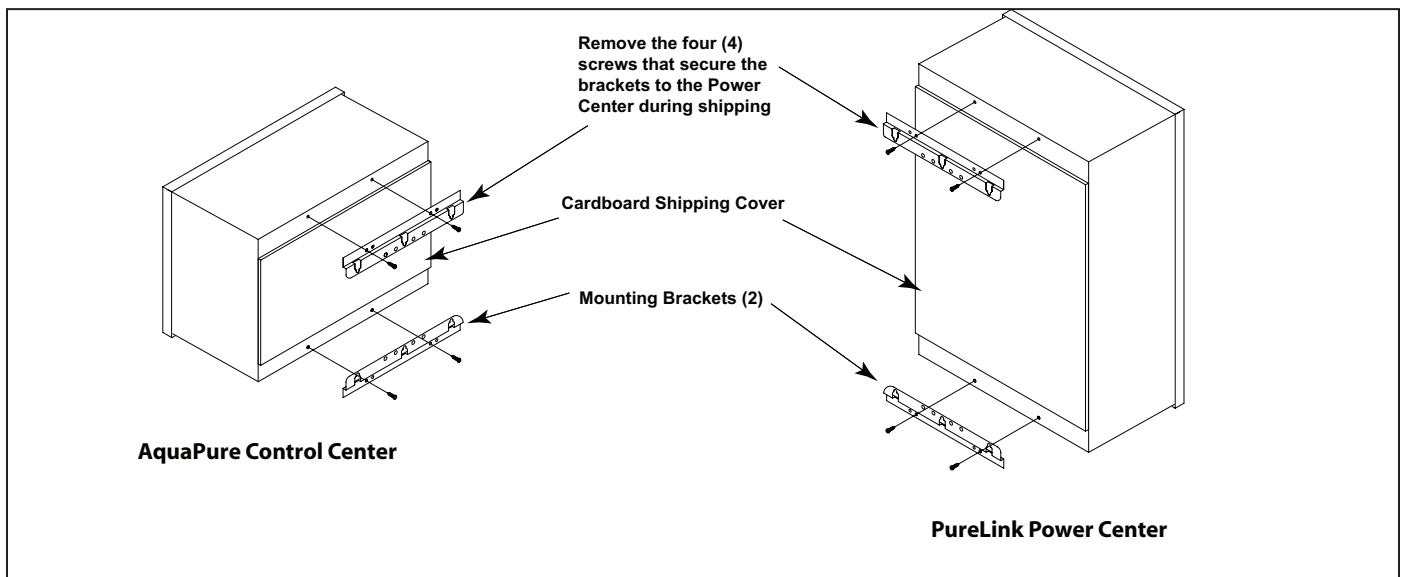

Figure 6. Removing the Control/Power Center Mounting Brackets from Shipping Position
2. The control/power center comes with two (2) full length, heavy duty mounting brackets *fastened* to the back of the power center during shipping. Remove the four (4) screws that are holding the two (2) brackets and the cardboard shipping cover in place (see Figure 6). Remove and discard the cardboard.